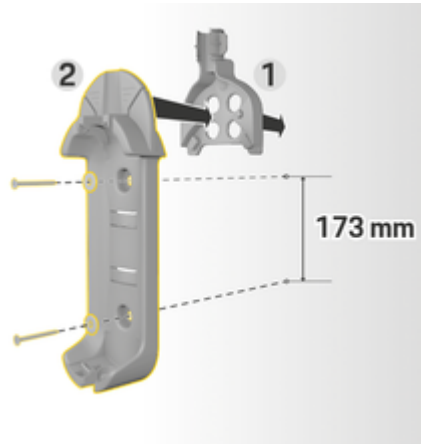

Fig. 3 Drilling dimensions
3. Press the basic wall mount 2 (Fig. 3) into the cable guide 1 (Fig. 3) from the front.